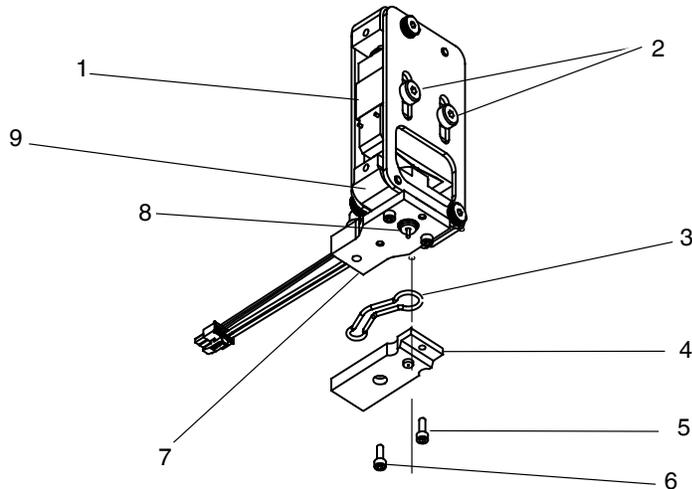

Figure 7-6 Nozzle Plate Removal
See Figures 7-6 and 7-8.
2. Remove the O-ring from the nozzle plate (3, Figure 7-6) and then clean all remaining material that can be removed from the adhesive flow channel.